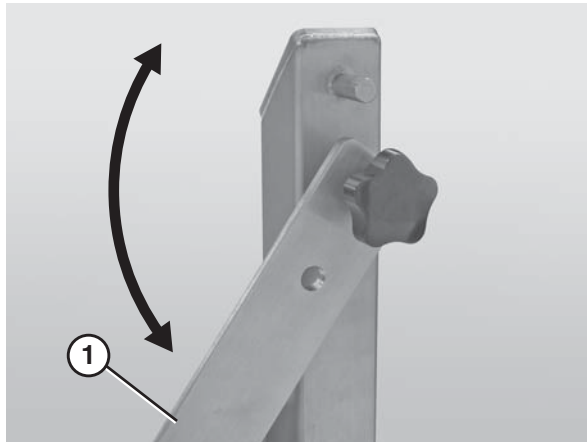

Figure 31
2. Lower the quick release arm (Figure 31, item 1) on one of the stands. *Note: if the conveyor is not equipped with Quick Release (QR Type) stands, it will be necessary to remove the entire stand.* For detailed instructions, refer to the “Sanitary Support Stands Installation, Maintenance and Parts Manual.”